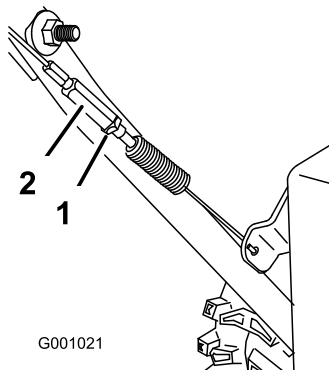

Figure 38
3. Tighten the jam nut (Figure 38).